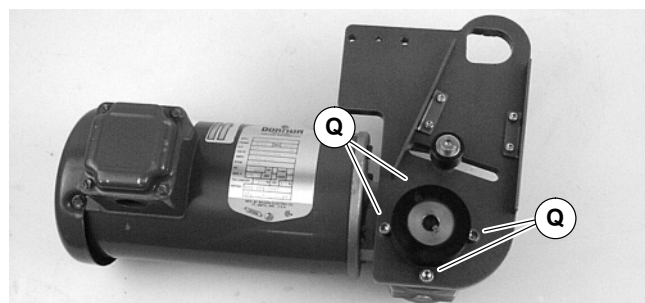

Figure 11
3. If required, change gearmotor position by removing four (4) screws (Q of Figure 11). Rotate gearmotor to other position and replace screws (Q). Tighten to 103 in-lb (12 N-m).